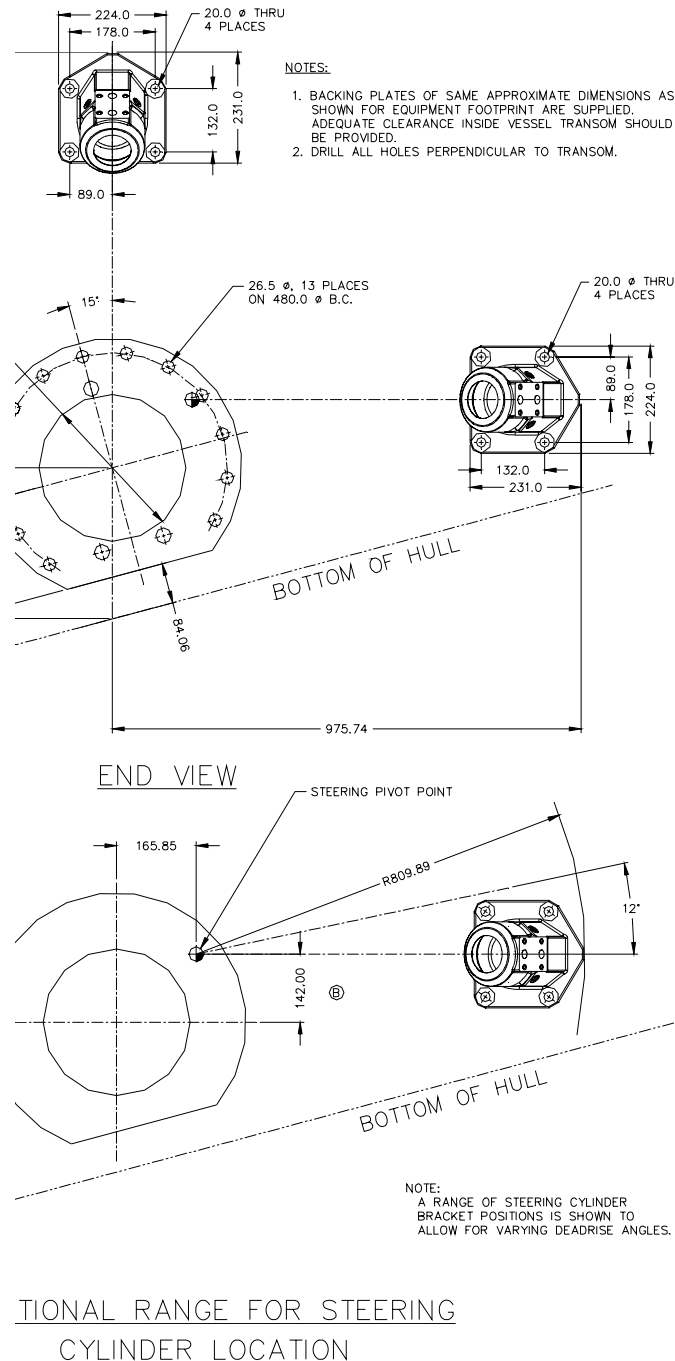

Figure 24. Transom Layout Dual Drive
3. Set the steering cylinder to the mid-travel location and position the steering cylinder mounting bracket on the transom. See Figure 24. The height and orientation of the mounting bracket should be such that the mounting bracket, the clevis, and the rod end are as close to centered as possible. For hulls with moderate deadrise, this height is usually dictated by clearance from the hull bottom.